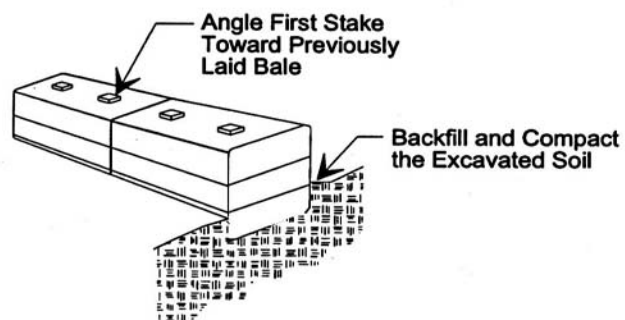

Figure 5.35 Installation of Straw Bales
**Grading** Excavate a trench at least 4 inches deep, a bale's width, and long enough that the end bales are somewhat upslope of the sediment pool (Fig. 5.35).